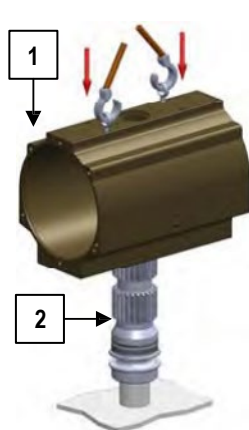

Fig. 20
3. Lay the cylinder (1) down on the pinion (2) (see Fig. 20).